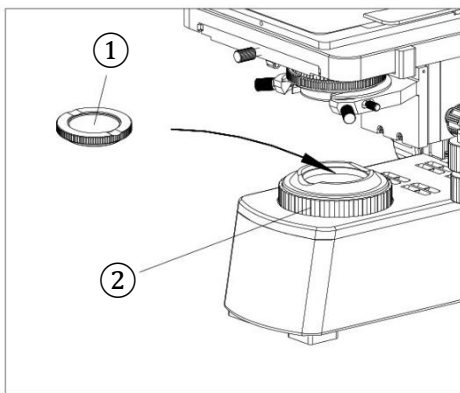
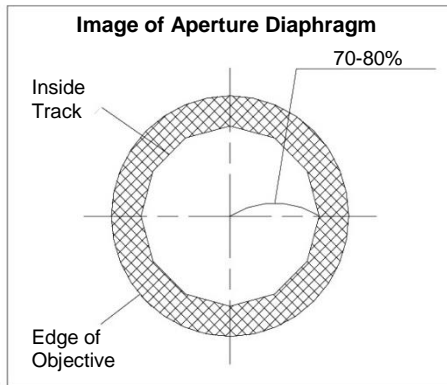

Fig. 25
Fig. 28
Insert the polarizer ① into the top receptacle of the field diaphragm holder ②. (Fig. 25)
**Adjusting the Field Diaphragm (Fig. 25)
Rotate the field diaphragm adjustment ring ② (Fig. 25) clockwise to enlarge the field diaphragm, counterclockwise to decrease it.
Adjusting the Aperture Diaphragm Transmitted Illumination (Fig. 25, 28-29)
As the contrast is usually low, adjust the condenser aperture diaphragm to 70-80% of the objective N.A. being used. If necessary, remove the eyepiece to observe through the eyepiece tube. Adjust the aperture diaphragm adjustment ring ② (Fig. 25) to adjust proportion until you see the image (Fig. 28).
Use of graduation: set the N.A. of the condenser to 80% of the N.A. of objective (Fig. 28).